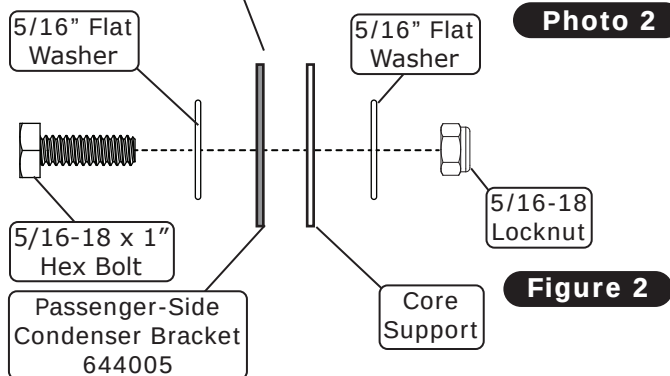

Figure 2
- Using a 5/16-18 x 1" hex bolt, (2) 5/16" flat washers and a 5/16-18 locknut, loosely attach the bottom of the passenger-side condenser bracket to the front of the core support as shown in Photo 2 and Figure 2, below. **NOTE: Do not fully tighten until the #6 drier/core hardline has been installed (See Page 10).**
- Attach the driver-side condenser bracket to the condenser assembly mounting tabs using (2) 10-24 nuts with star washers (See Photo 4, below).